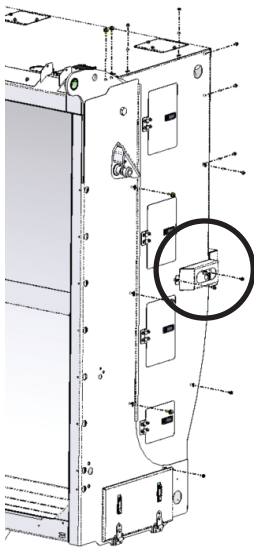

Figure 6
5. If side bracket for light bar exists, first remove the exterior bolt on the right to then gain access to the interior bolt on the left (Figure 6). Remove light housing. Retain all components.
6. Remove and retain exterior fasteners that secure the old cover panel to the tailgate (Figure 6 side view).